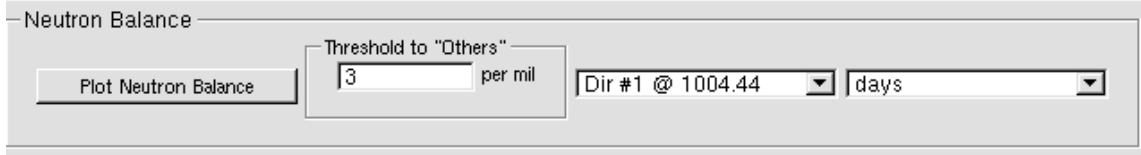
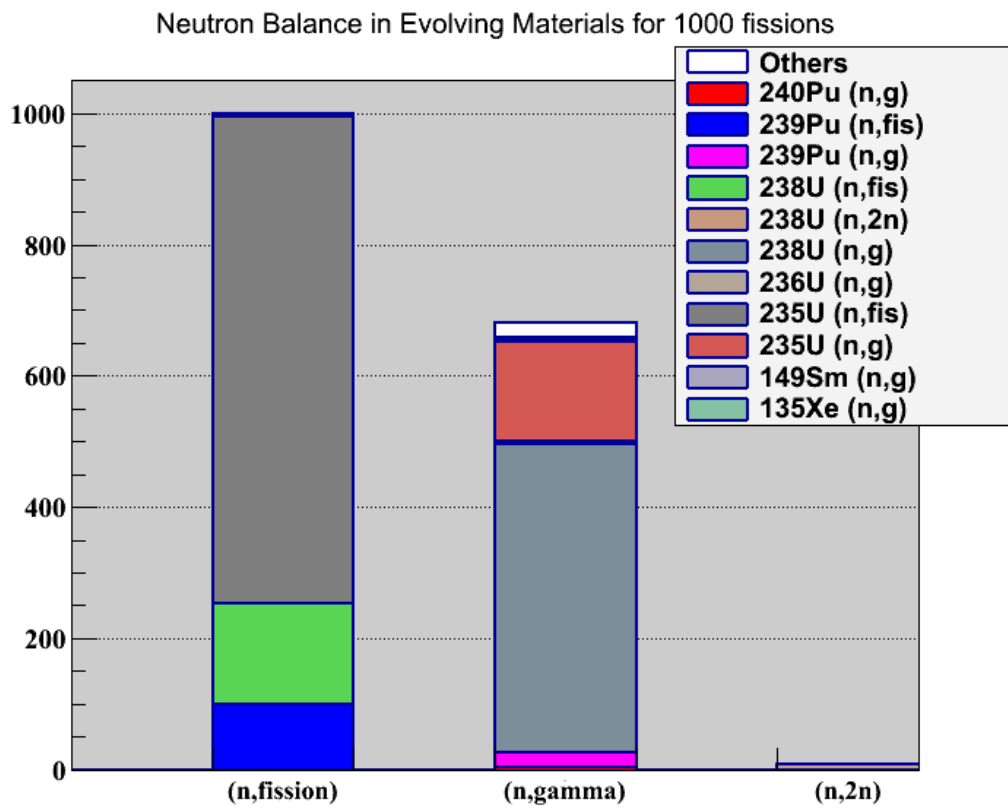

Figure 8.2: Neutron Balance window. In this example, the reaction rates less than 3 per mil are grouped in the “Others” category.
Figure 8.3: Neutron balance plot.
- In the *Reaction Rate* Tab, the “FP” and “Sum of Selected” check boxes allow users to plot total reaction rate of fission products and the sum of selected reaction rates respectively. The generated power can also be obtained using the “*Power*” check box. **Power results are returned in the terminal** when the graph is refreshed. The “(Un)Select Fissil” button selects (or unselects) all available fission reactions automatically. Note that released energy per fission values (Q_values) are automatically selected according to the transport code previously used (*DRAGON*, *MCNP* or *Serpent*). In this Tab, it is also possible to plot *Neutron Balance* normalized per 1000 fissions. Once the user has selected the wanted reaction rates (or all reaction rates for the fissile (“(Un)Select Fissile” button) or for all nuclei (“(Un)Select All” button), the neutron balance is plotted using histogram bars. The box “Threshold to Others” allow user to group all reaction rates less than the threshold (default 0.1 per mil) in a category named “Others” (see fig. 8.2 and fig 8.3). The “Dir” number is the number of the Dirname argument of MureGui and the number following the “@” character corresponds to the time at which the MC run is done (thus figure 8.2 corresponds to first Dirname at time t=1004.44 days where a MCNP run was performed)